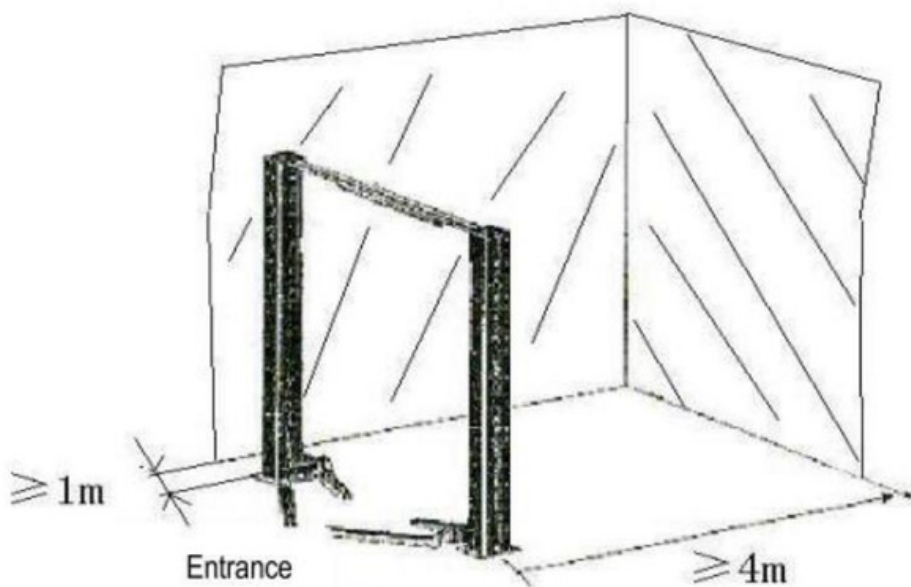

Fig.8
- The front and back of the lift should be reserved with sufficient space to accommodate all the vehicles (Fig.8). (evaluating from the center line ,each edge should be about 4m)